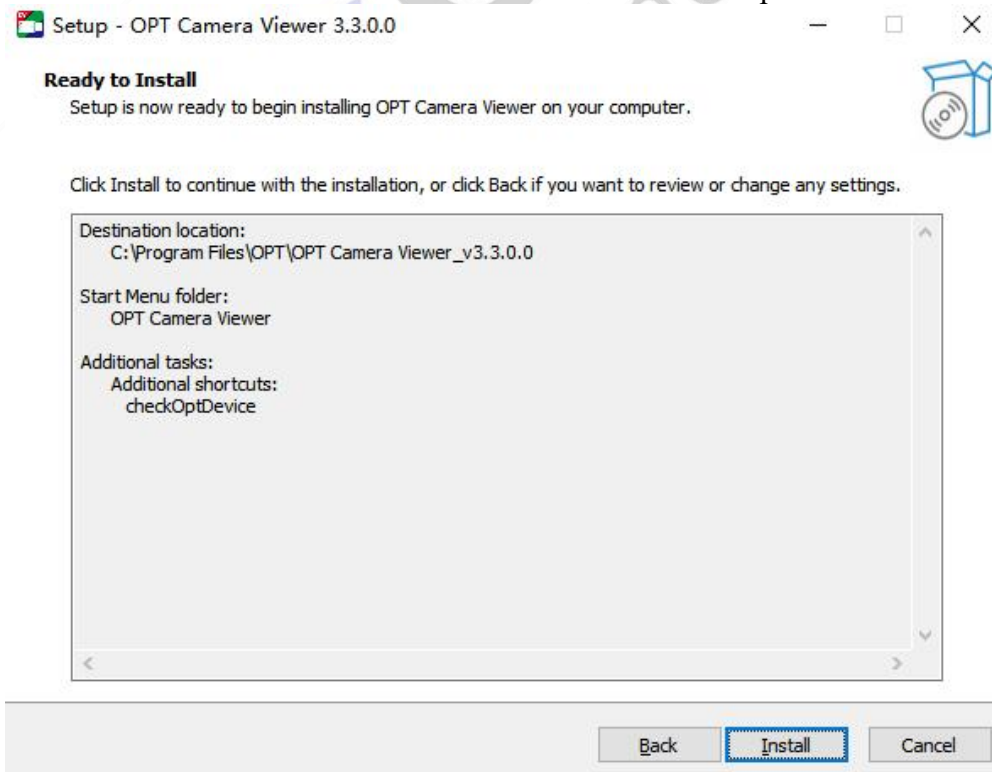

Figure 3-5 Ready to Install Window
6. Enter the preparation installation window as shown in Figure 3-5, check the installation summary information and click the Next button to continue the installation process.